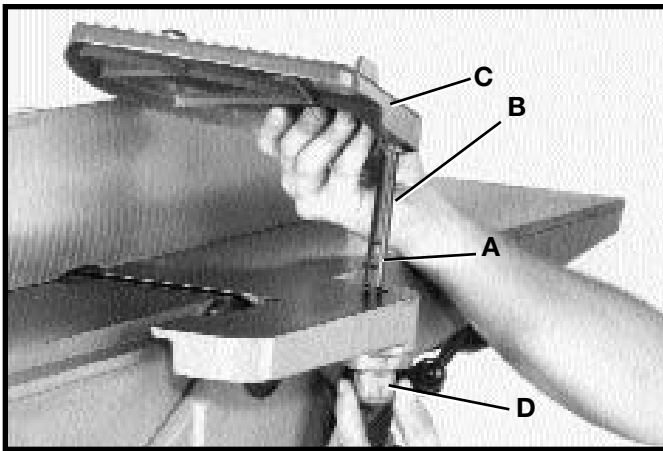

Fig. 23
1. Remove set screw (A) Fig. 23, from post (B) of cutterhead guard (C).
2. Assemble cutterhead guard (C) Fig. 23, to the jointer by inserting post (B) down through the hole in the infeed table. **NOTE:** A spring is supplied in knob assembly (D) that returns the guard (C) over the cutterhead after a cut has been made. Turn knob (D) to provide tension on the spring before inserting post (B). Make certain the spring engages in the slot of the post. If spring tension is too much or too little, adjust the spring accordingly by removing the guard and rotating knob (D).